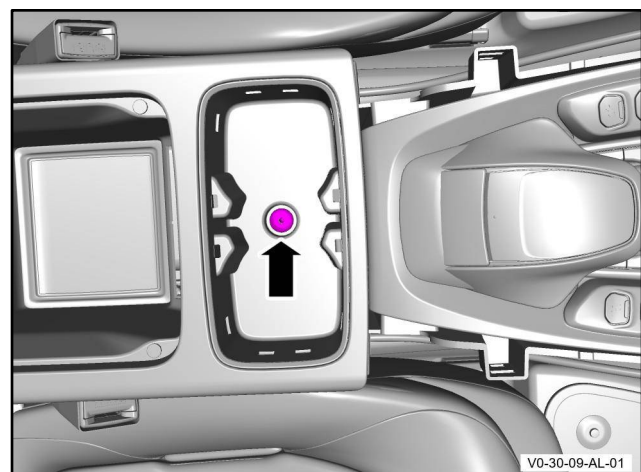

Figure 10
4. Remove the screw that attaches the cup holder assembly to the centre console assembly (refer to Figure 10).